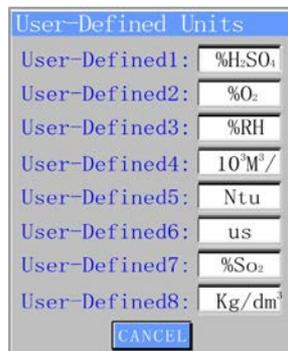

Figure 5-2-2F
*1 Note: 8 of unit setting are reserved for user in special requesting. Figure 5-2-2F